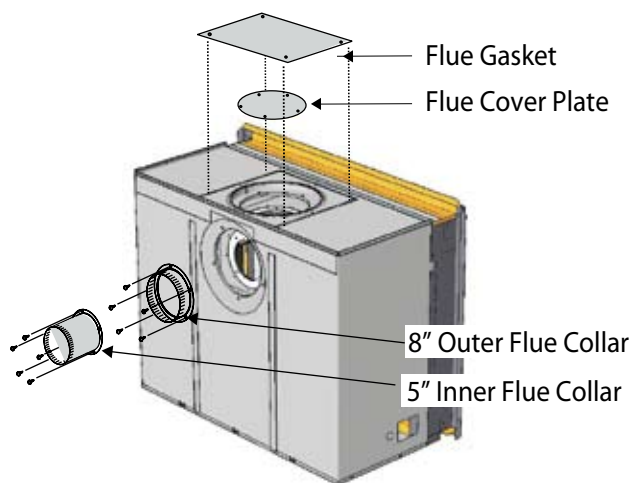

Figure 8b. Flue collar installation for Rear Vented fireplace, (L52-DF Only).
3. Install the flue gasket material and flue cover plate on the top vent outlet. Fasten the plate with four screws, as illustrated in figure 8b.